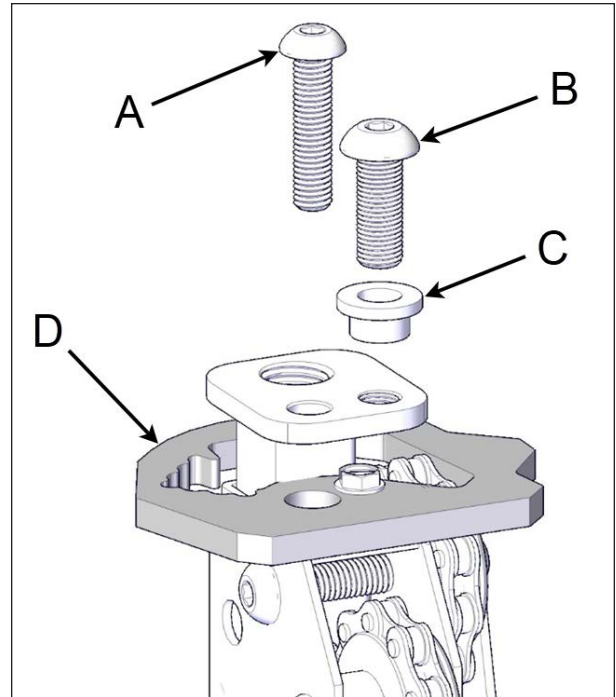

FIGURE 44: JACK LOCK SCREW
16. Once all the drive shafts are installed, the jack lock screws located at the top of the non-motor-side jacks can safely be removed. Remove the Allen M8 x 50 mm screws and keep them for future use see Figure 44.
17. Unscrew the 3/8" x 1" Allen bolt with a 7/32" (5.5 mm) socket on the top of all four jack assemblies. Put these parts in a safe location see Figure 44.